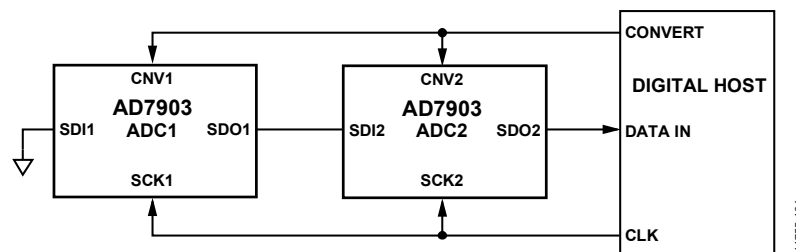
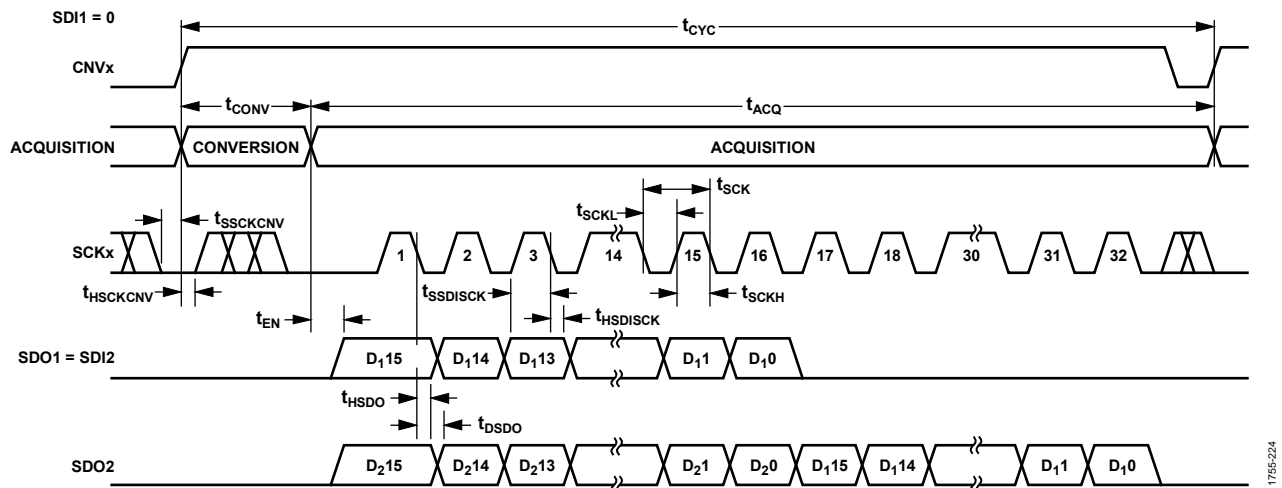
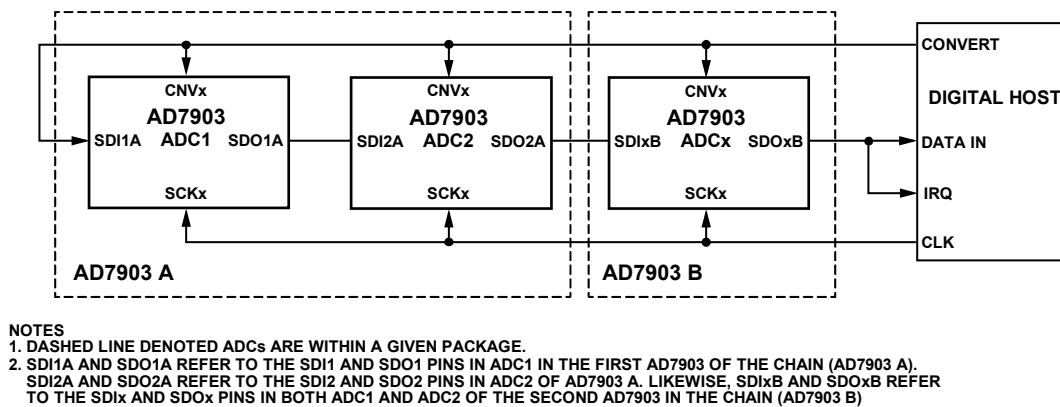
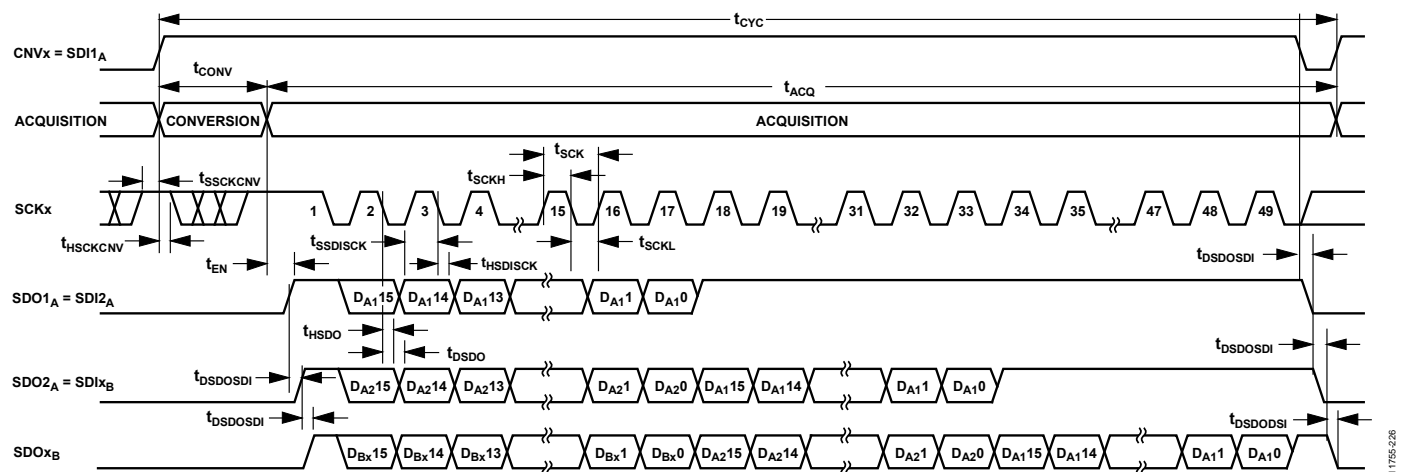

Figure 47. Chain Mode Without Busy Indicator Connection Diagram
Figure 48. Chain Mode Without Busy Indicator Serial Interface Timing
Figure 49. Chain Mode with Busy Indicator Connection Diagram
Figure 50. Chain Mode with Busy Indicator Serial Interface Timing
- In chain mode if SCKx is high during the CNVx rising edge (see Figure 50).
See Figure 47 for a connection diagram example using both ADCs in an AD7903. The corresponding timing is shown in Figure 48.
See Figure 49 for a connection diagram example using three AD7903 ADCs. The corresponding timing is shown in Figure 50.
conversions, the SDOx pin of the ADC closest to the digital host (see the ADC labeled ADCx in the AD7903 B box in Figure 49) is driven high. This transition on SDOx can be used as a busy indicator to trigger the data readback controlled by the digital host. The AD7903 then enters the acquisition phase and powers down. The data bits stored in the internal shift register are clocked out, MSB first, by subsequent SCKx falling edges. For each ADC, SDIx feeds the input of the internal shift register and is clocked by the SCKx falling edge. Each ADC in the chain outputs its data MSB first, and  $16 \times N + 1$  clocks are required to read back the N ADCs. Although the rising edge can be used to capture the data, a digital host using the SCKx falling edge allows a faster reading rate and, consequently, more ADCs in the chain, provided that the digital host has an acceptable hold time.
Alternatively, for applications where simultaneous sampling is required but pins on the digital host are limited, the two user interfaces on the AD7903 can be connected in one of the daisy-chain configurations shown in Figure 47 and Figure 49. This daisy chaining allows the user to implement simultaneous sampling functionality while requiring only one digital host input pin. This scenario requires 31 or 32 SCKx falling edges (depending on the status of the busy indicator) to acquire data from the ADC.